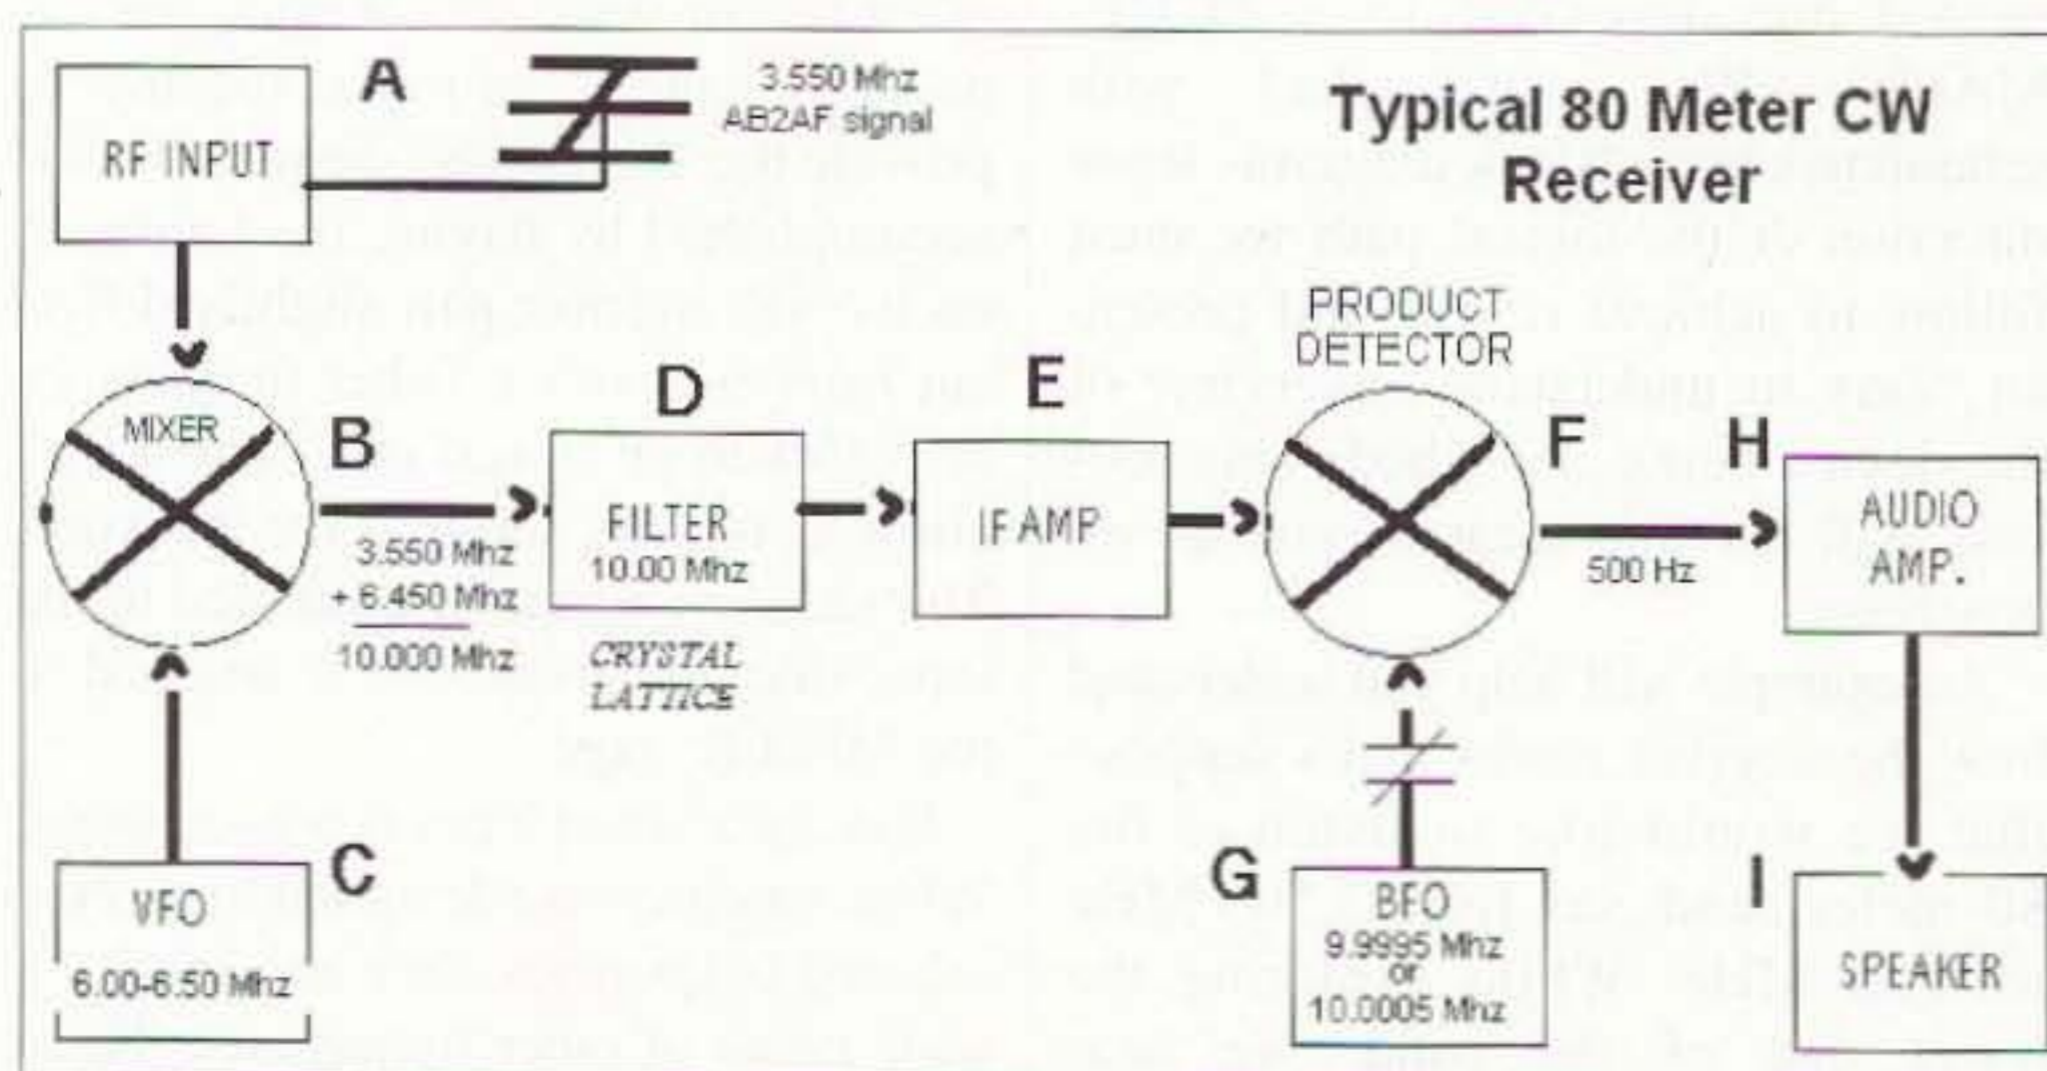

Fig. 1. Typical receiver block diagram, showing input bandwidth and signal, VFO and BFO frequencies, and audio output.
**Fig. 1.** Dimensions of the base and hold-down device are approximate. They were selected to use the wood "stock" I had on hand to match the "hobby hinge," and the base size is the remaining "stiffener" for the pizza pan. The primary requirement is, however, to have the test lead point become usable in the lower half of the working surface.
The wooden stiffener, as a base, has proven to be the best answer. The attached drawing, (Fig. 1), gives measurements I used to create my work station. The measurements aren't critical; they "fit" my device. Your overall dimensions can be modified to fit your parts. Keep in mind, though, that the pressure point (i.e., the part that holds the SMT to the board) should fall approximately in the lower third of the work surface. I had a test lead probe in my junk box just longing to become part of a project. A "push point" ballpoint pen housing, I suppose, would have worked equally well, provided of course that the pen part was eliminated and a finishing nail of suitable size was epoxied into the housing in its place.
the operation of the receiver. Thus far, the signal we desire to hear has been intercepted by the antenna and passed through a tuned circuit called the RF INPUT circuit which has been designed to pass only those frequencies between 3.5 MHz and 4.0 MHz, and is shown in Block A of Fig. 1.